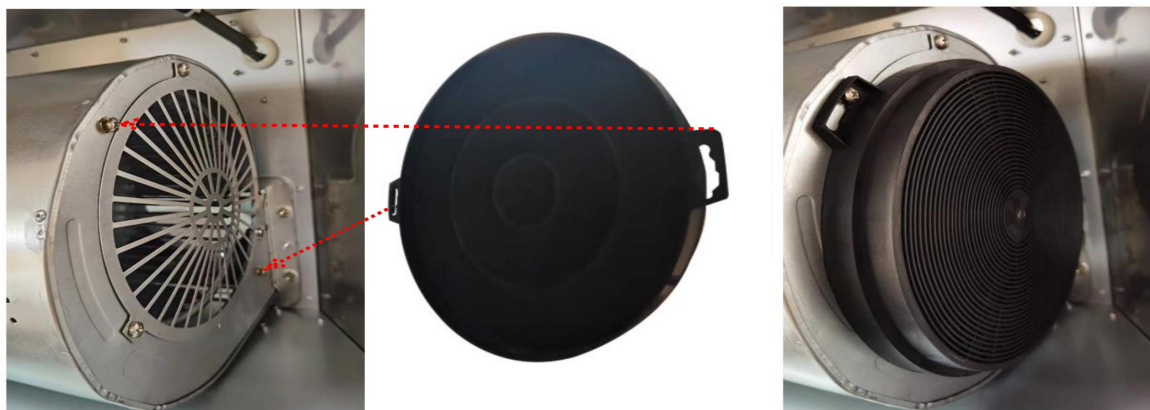

Figure 1
- Position the charcoal filters onto the right side of the motor, aligning the mounting points, turn until it locks. See Figure1.